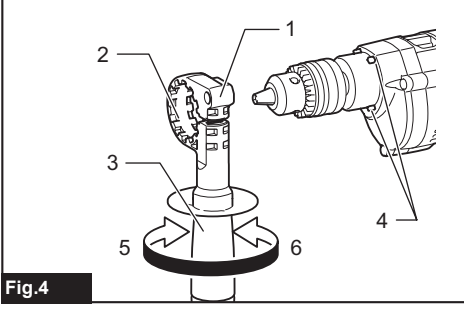

Fig.4
- Fig.4: 1. Grip base 2. Teeth 3. Side grip (auxiliary handle) 4. Protrusion 5. Loosen 6. Tighten